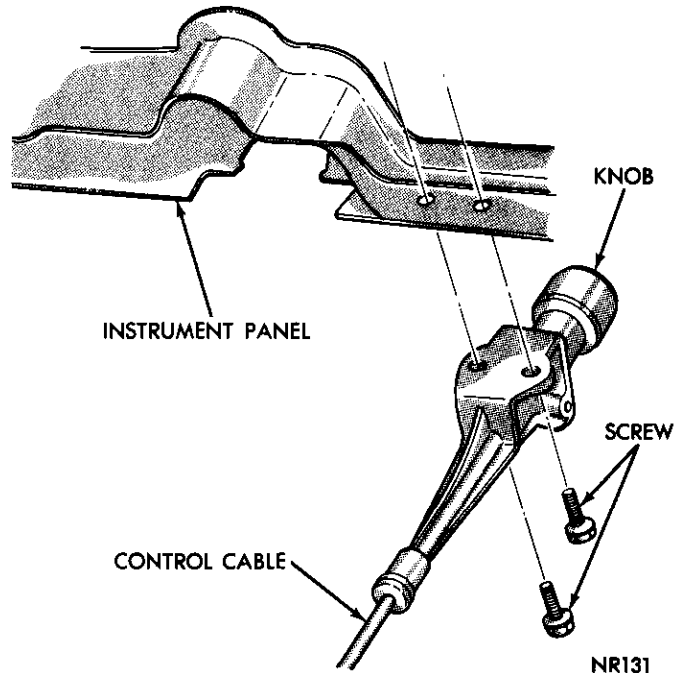
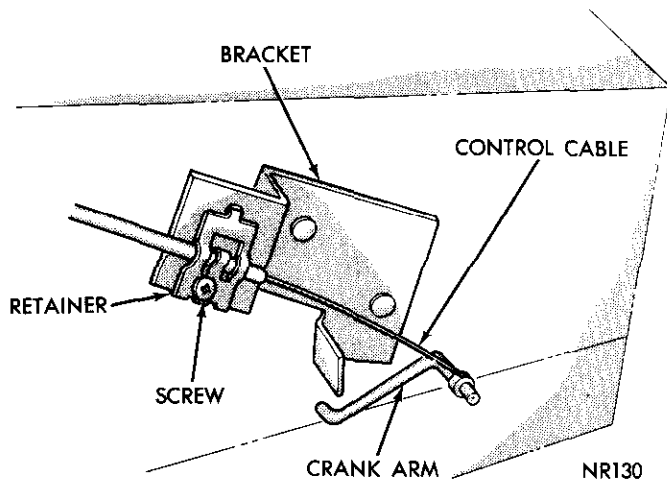

Fig. 1—Fresh Air Control Cable
Fig. 2—Cable Attachment (Right Side)
The control cables are attached to the instrument panel lower flange with screws (Fig. 1). The lower end of the cables are retained on a mounting bracket with a clip and screw (Fig. 2). The cable "looped" end is positioned on the fresh air door control crank arm (Fig. 2).
- (1) At lower end of cable, remove screw and clip retaining cable on mounting bracket (Fig. 2).
- (2) Push control knob in fully and rotate fresh air door control crank arm to the fully closed position.
- (3) Position clip over cable and on mounting bracket. Install screw, tighten securely and test cable operation.